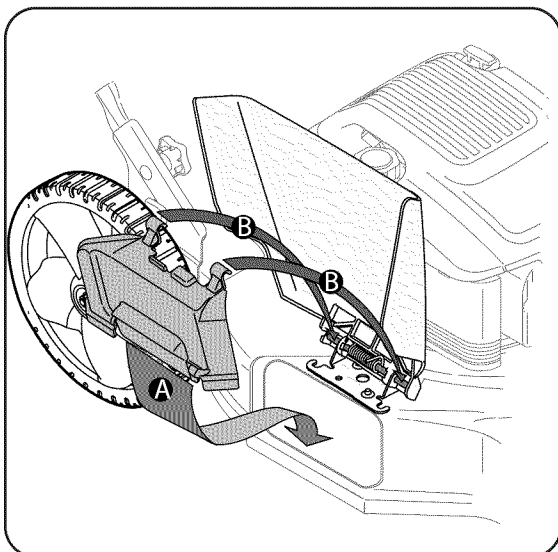

Figure 3-8
- a. Lift up and hold the side-discharge chute deflector and insert bottom lip of the mulching baffle inside the chute opening. See Figure 3-8.